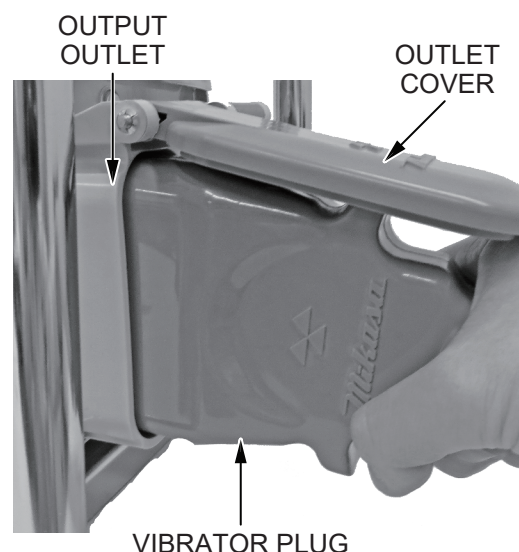

Figure 6. Connect Work Machine To Inverter
- Raise the **output outlet cover** and insert the **male plug** of the work machine (vibrator) securely into the **output outlet** (Figure 6).